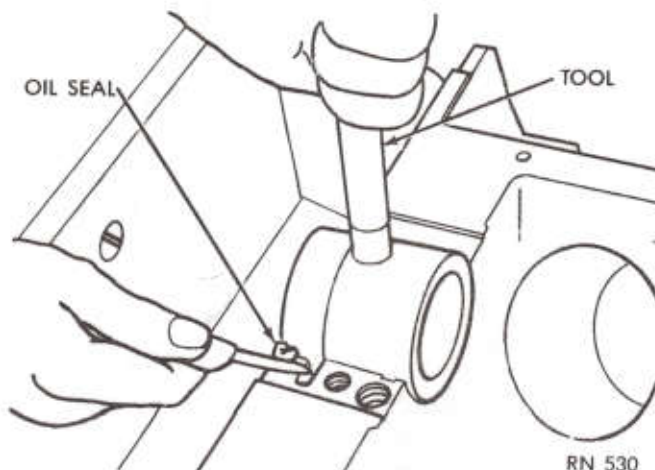

Fig. 49—Trimming Upper (or Lower) Oil Seal
(3) Hold tool in this position and cut off the portion of seal that extends below the block on both sides (Fig. 49).